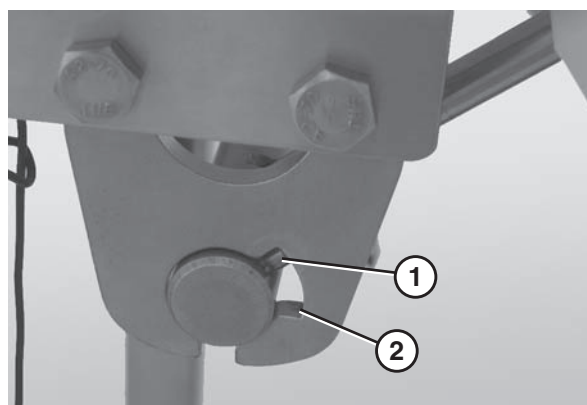

Figure 32
3. Insert the notched end of the scraper shaft (**Figure 32, item 1**) so that it is situated within the groove in the mounting plate (**Figure 32, item 2**).